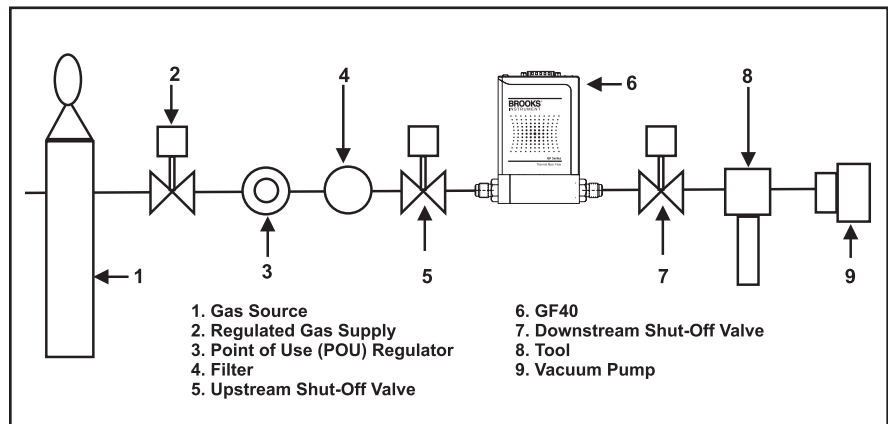

Figure 2-1 Typical Gas Supply Arrangement
Typical gas supply arrangements are shown in Figure 2-1. GF40s are often arranged inside a gas panel. Configure standard configurations ("SAs") or "blanks" for a variety of pure gases and mixtures. As a result, MultiFlo technology enables the user to reduce unique inventory requirements.
For additional safety, it is recommended to close the two valves between the charged gas line and the GF40 Series to be installed. See Figure 2-1 for more details.
3. Refer to Figure 2-1. Open the upstream shut-off valve (5) and close the downstream shut-off valve (7). This eliminates a pressure drop across the GF40 Series and subsequent leakage from the PID control valve inside the GF40 Series.
5. Refer to Figure 2-1. Close the upstream shut-off valve (5) to prevent any pressure effects from the regulator (3).